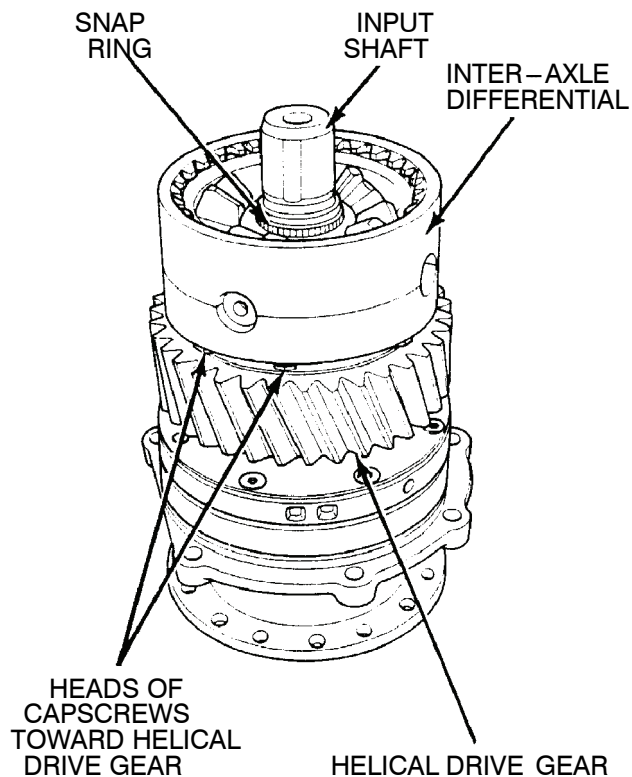

Figure 91.
- (9) Install the inter-axle differential on the input shaft so that the teeth in the differential case are away from the helical drive gear. Install the snap ring that fastens the case to the shaft. Figure 91.